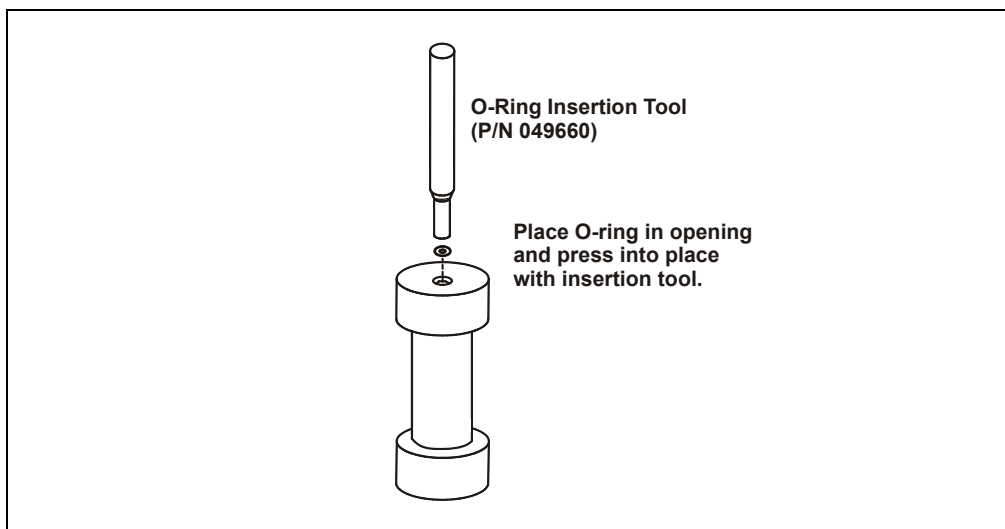

Figure 5-4. Installing the Cell O-Ring
3. Place a new O-ring (PTFE, P/N 049457, pkg. of 50; Viton, P/N 056325, pkg. of 50) over the opening in the end of the cell end cap. Press the O-ring into place, using the O-ring insertion tool (see Figure 5-4).